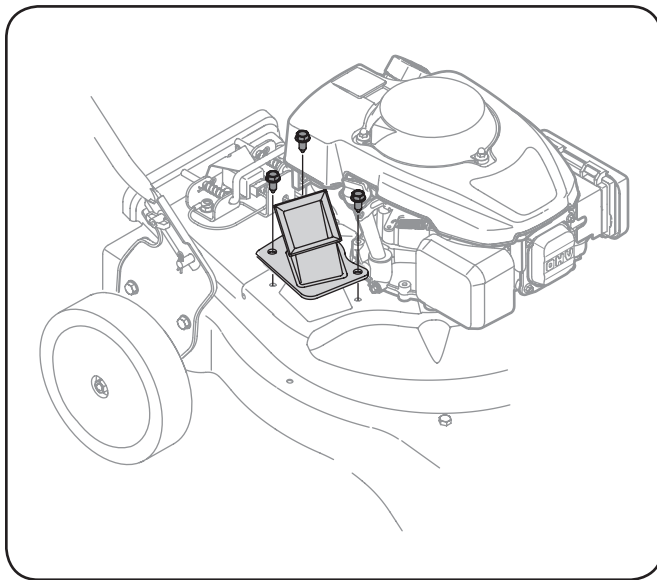

Figure 7-1
3. Remove the three hex cap screws holding the hose hanger bracket and chipper chute to the upper housing. See Figure 7-1.